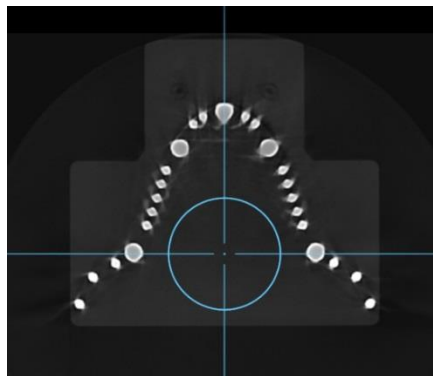

Figure1. Normal image
① Place Ball Phantom.
- ② Align using vertical and horizontal lasers such that the phantom is in line with center of rotation.
- ③ Select a Dental Arch, 0.2 voxel, 70kV, 10mA scan protocol in the CT scan program
- ④ Acquire the scan
- ⑤ Check whether the reconstructed image using 3D Viewer program is located in center as shown in the figure 1 that the image of ball phantom is located in center.